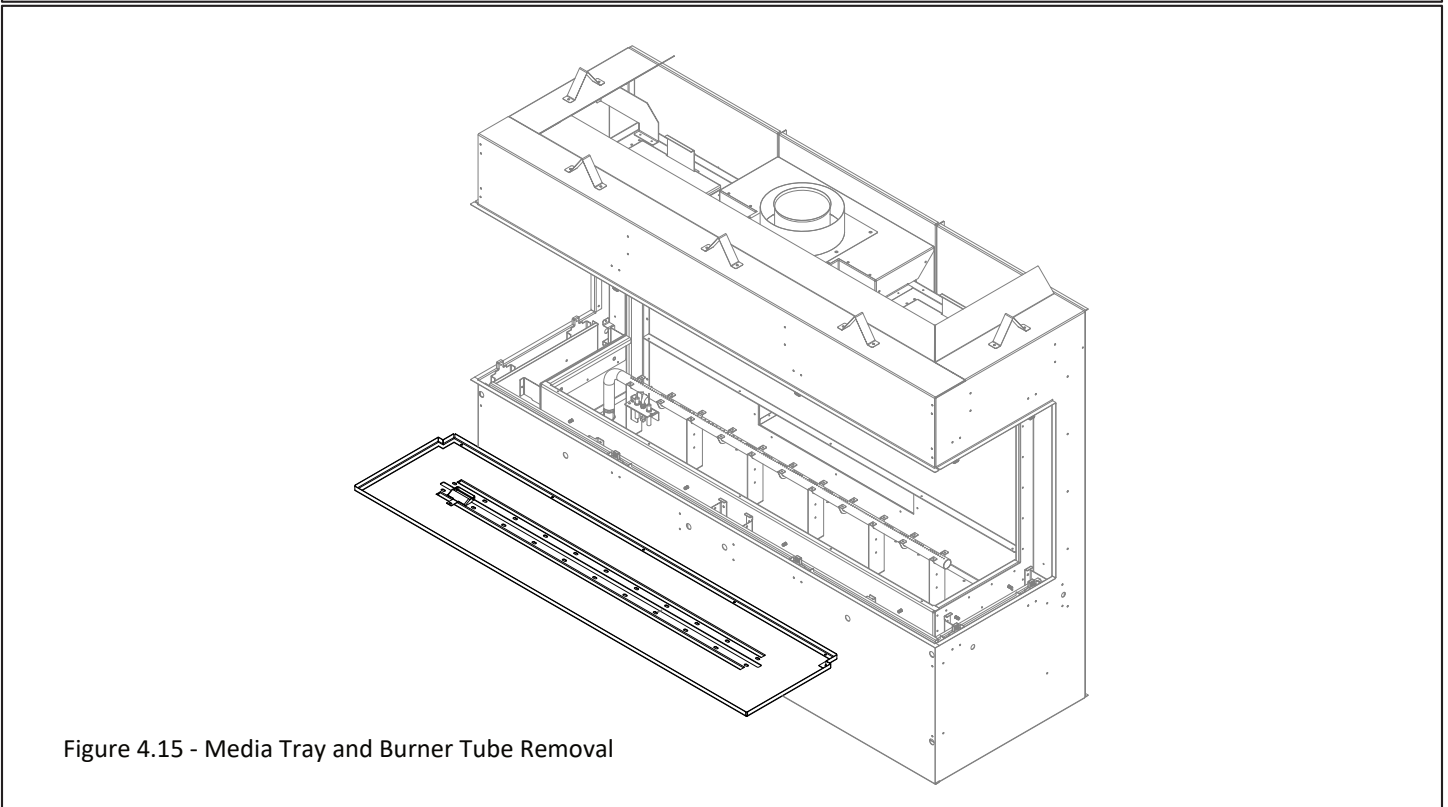

Figure 4.15 - Media Tray and Burner Tube Removal
4. Remove all the sheet metal screws around the perimeter of the media tray and all sheet metal screws along the center of the burner. Remove the firebox media tray and burner tube. Figure 4.15.